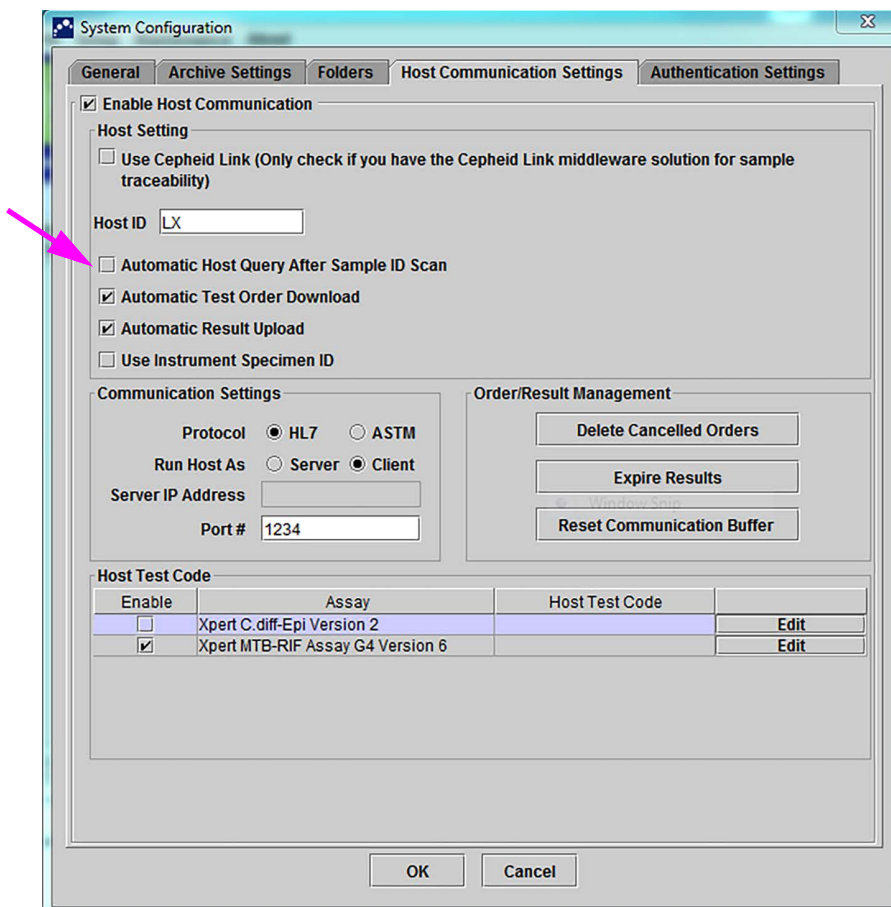

Figure 5-90. Select Host Query
1. In the **Host Communication Settings** tab of the System Configuration dialog, click on the **Automatic Host Query After Sample ID Scan** check box to select and enable this function. See Figure 5-90.